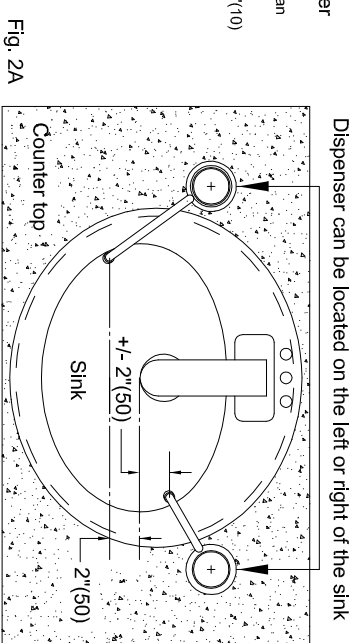

Fig. 2A
- Choose a suitable location (Fig. 2A), cut and paste installation template (Fig. 2B) on the drilling location. (Ensure clearance above and below the counter as shown in Fig. 3).